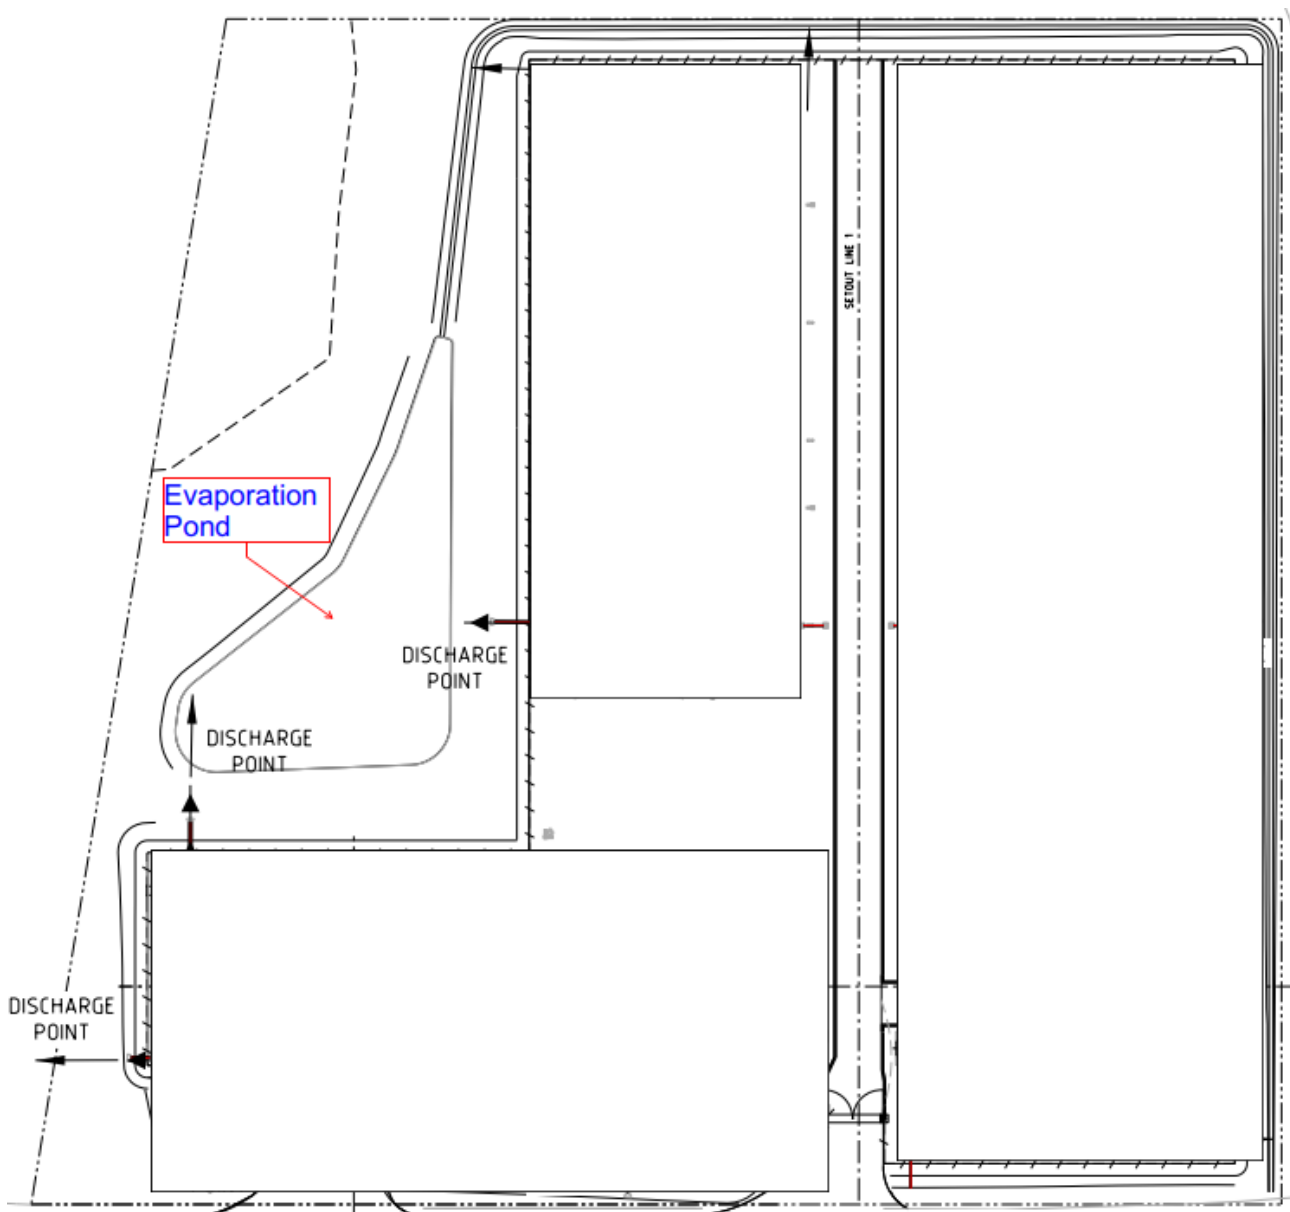

Figure 13 - Evaporation Pond Location
- The intent of water management for the Project is for onsite containment and management via an evaporation pond to manage the earthworks footprint runoff, and water pumped and filtered through sediment fencing, silt traps, grassed areas or similar to manage post rainfall dewatering of excavations and trenches. The intent will be to re-use this water on site for dust control and watering of re-vegetated areas. The site sits on a very flat portion of land, with a gentle slope < 0.5% to the west. Therefore, minimal upstream drainage diversion requirements are anticipated, however, discharge to the east is proposed to be directed around to the west, into an evaporation style pond shown in Figure 13. The sizing of the pond is a nominal footprint, maximising available area to suit the available land.